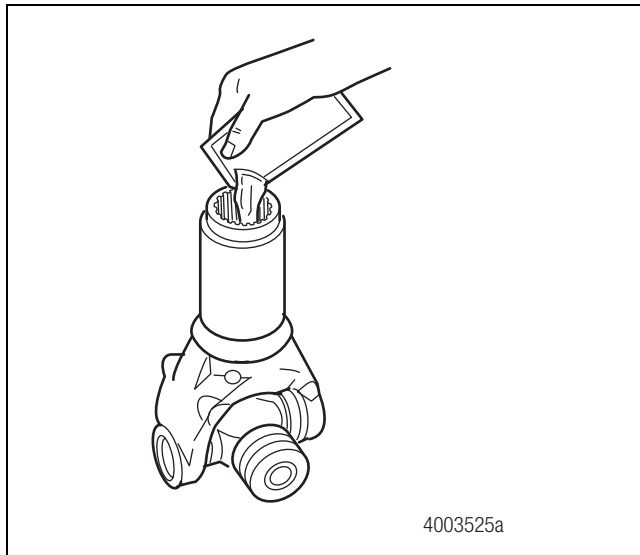

Figure 8.18
2. Use the grease packet supplied with the slip yoke to apply the entire amount of grease into the slip yoke. Figure 8.18.